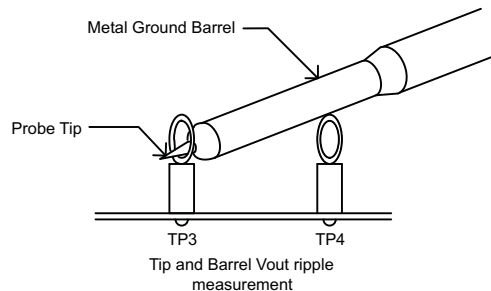

Figure 3. Tip and Barrel Output Voltage Ripple Measurement
3. Connect oscilloscope probe with exposed metal barrel to TP3 and TP4 per Figure 3. Using a leaded ground connection may induce additional noise due to the large ground loop.